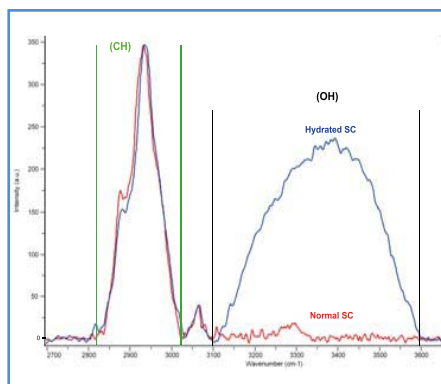

Figure 6: Raman spectra of untreated (red) versus hydrated (blue) stratum corneum
The assessment of the water concentration profile in the stratum corneum (SC) provides crucial information regarding the water-holding capacity and the barrier properties of the skin. The evolution of the water content in the SC can indeed be determined by calculating the area below a part of the complex broad band in the range 3100-3600 cm^{-1} of the normalised spectra with respect to the CH band (2810-3030 cm^{-1}) (Fig. 6). This enables rapid, automated deter-